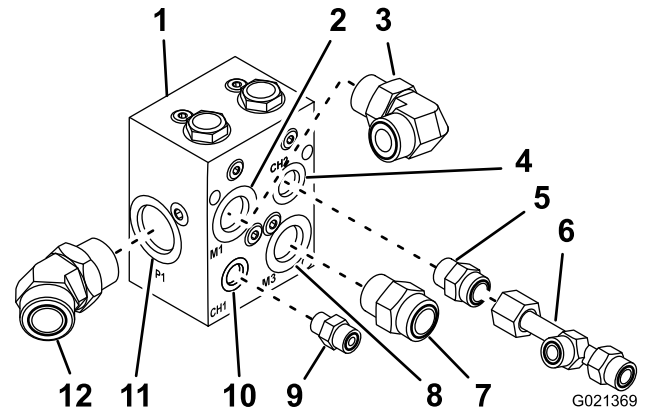

Figure 8
1. Thread the 45° hydraulic fitting into port (P1) of the flow-divider manifold (Figure 8).
2. Thread the 90° hydraulic fitting into port (M1) of the flow-divider manifold (Figure 8).
3. Install the 3/4 inch check fitting into port (CH2) of the flow-divider manifold (Figure 8).
4. Thread the tube nut of the T-fitting onto the check fitting (Figure 8).
5. Install the straight-hydraulic fitting into port (M3) of the flow-divider manifold (Figure 8).
6. Install the 9/16 check adapter into port (CH1) of the flow-divider manifold (Figure 8).